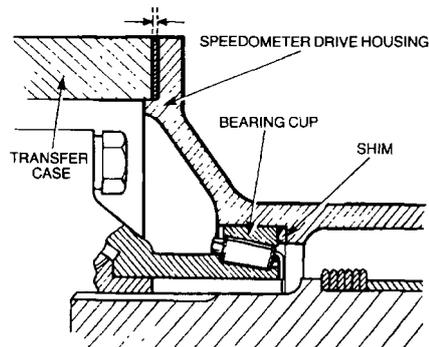

Figure 195 Differential Assembly Pre-load
- hh. Position the speedometer drive housing without the gasket on the transfer case and measure the gap in at least four locations between the housing and transfer case joint faces. The measurement must be 0.1 mm (0.004 in) more than the thickness of the gasket measured in sub-para ff. The gap can be adjusted by replacing the shim installed behind the bearing cup (Figure 195). The range of shims available is from 1.65 to 2.80 mm (0.065 to 0.110 in) in 0.5 mm (0.002 in) increments.
- jj. Determine if the differential pre-load is correct by using a spring balance and cord coiled around the output shaft to measure the rolling resistance. With the bearings oiled, the differential lock disengaged and no oil seal fitted, the rolling resistance should be 6 to 7 kg (14 to 16 lbs). To obtain the correct rolling resistance, replace the shim with one of the correct thickness (Figure 195).